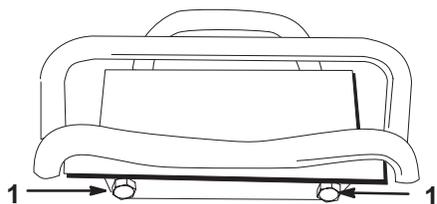

Figure 26
3. If the traction unit veers to the **left**, loosen the the **right** jam nut and adjust the tracking set screw on the front of the traction control (Fig. 26).
4. If the traction unit veers to the **right**, loosen the the **left** jam nut and adjust the tracking set screw on the front of the traction control (Fig. 26).